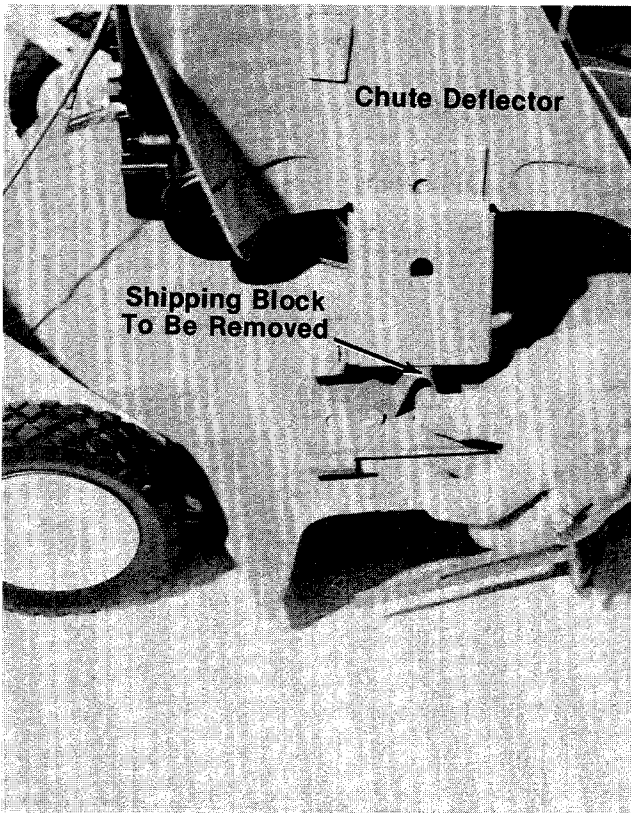

FIGURE 5.
- Please note that the chute deflector on your mower is in an upright position. It is held in that position by a shipping block. This block is used for shipping purposes only. It must be removed and discarded before your mower is put into operation. See figure 5.